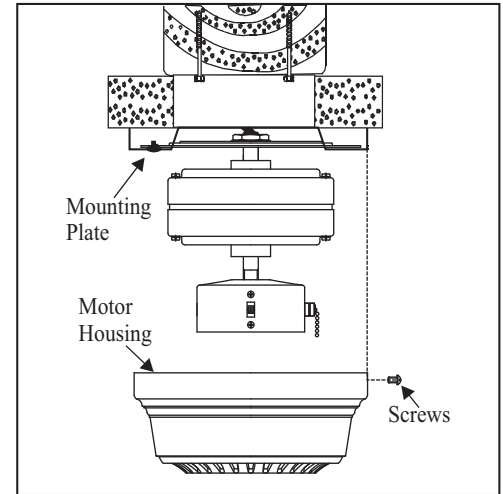

Figure 8
2. Carefully lift the motor housing onto the mounting plate, properly align the holes and tighten the motor housing with the 4 screws supplied. (Fig. 8)